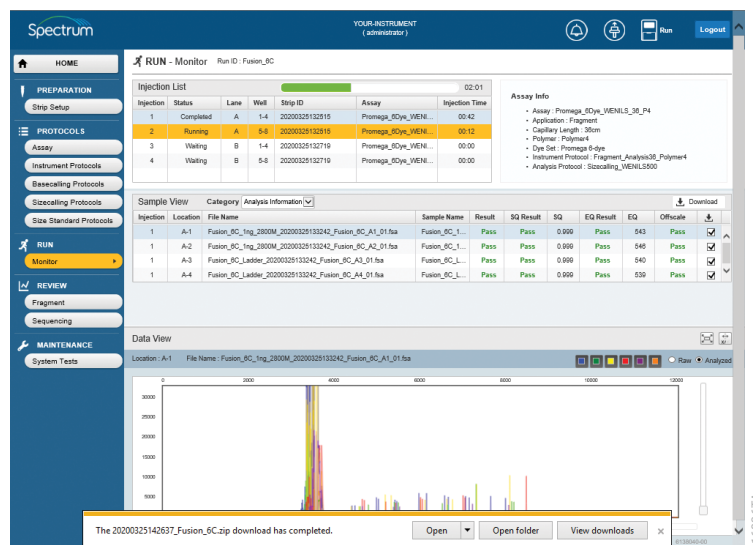

Figure 88. 'RUN-Monitor' screen with completed download window.
3. Selecting **Open** or **Save** opens a dialog box at the bottom of the 'RUN-Monitor' screen asking if you want to **Open**, **Open Folder** or **View Downloads** containing the run information for the selected samples (Figure 88). Selecting any one of these options allows you to access the downloaded run files for the selected samples. The files may be moved to another location on the PC or other network location. Selecting **Cancel** exits out of the download.